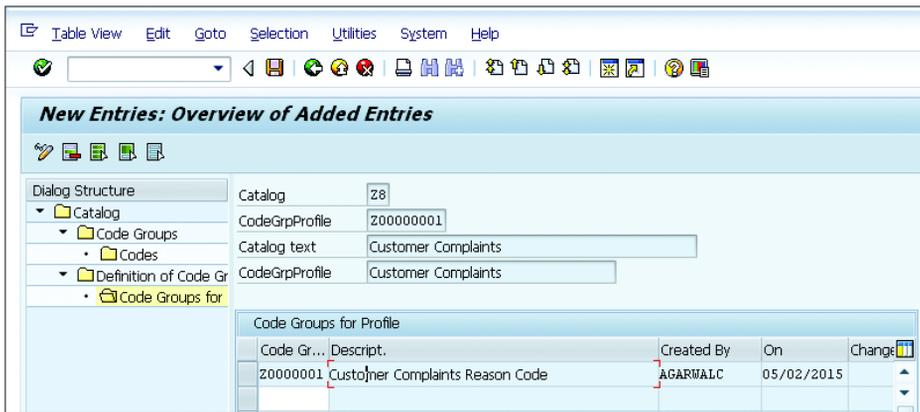

Figure 4.106 Assigning the Code Group to the Code Group Profile
6. Assign the code group to the CODEGRPPROFILE, as shown in Figure 4.106.